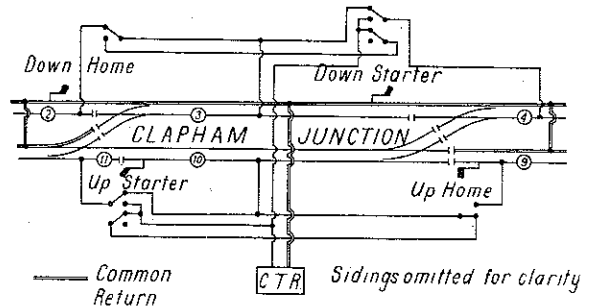

Fig. 3. Clapham Junction switchgear. The switches (here shown alongside the relevant signals) are actually at the signal box
"At a through station like Clapham there are two stop signals on each road, and each of them has a separate switch. The homes have normal two-way switches, but the starters require double-pole two-ways. These four switches are connected to the adjacent feed rails and the local controller as in *this* diagram (Fig. 3)."
"That's where the double-pole starter switches come in. If Victoria has a through train for Croydon, for example, Clapham pulls off his down home and down starter (Fig. 3 again). This links Sections 3 and 4 to Victoria's block section (2) and thus to his controller and to Section 1. The clearing of Croydon's down home adds Section 5 to the chain in the same way—and there you are: clear signals, and the juice, all the way.